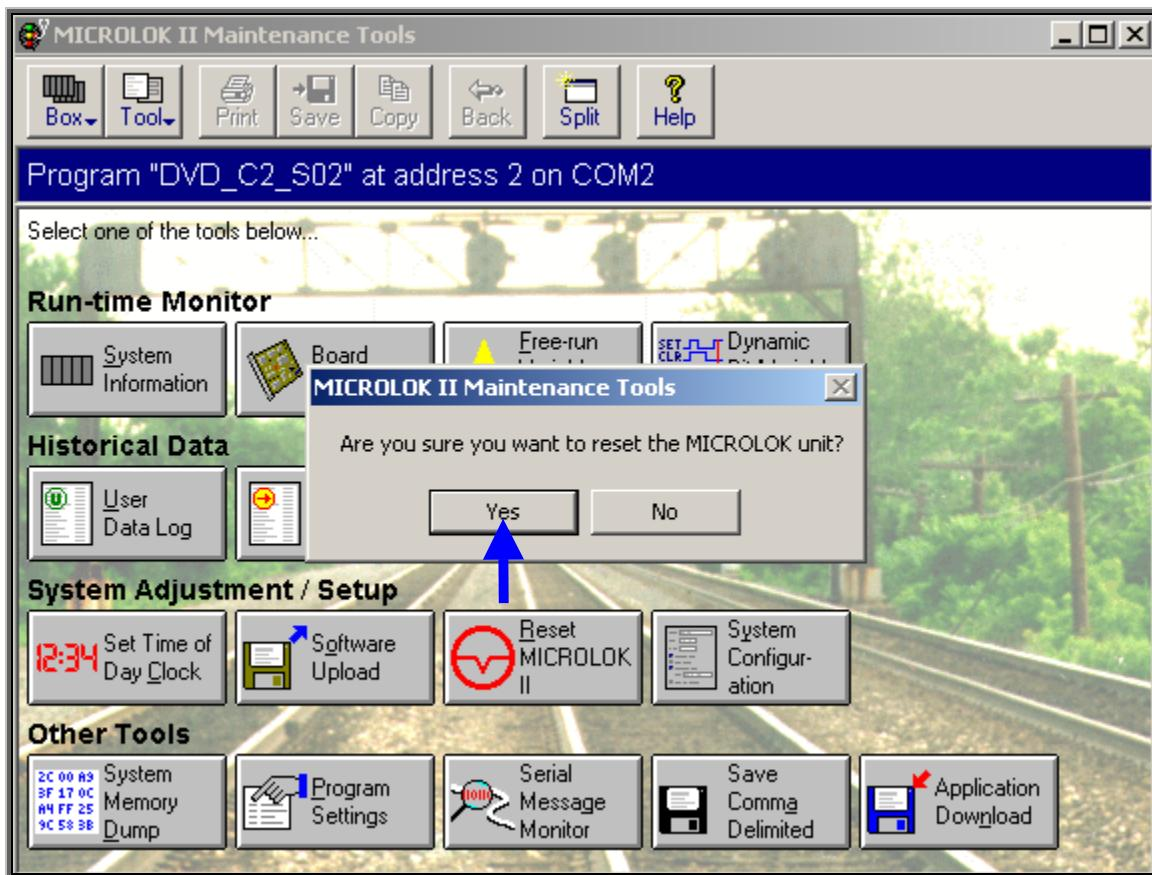

Figure-5.8.2
- ❖ The system displays a confirmation screen, as shown in Figure-5.8.2.